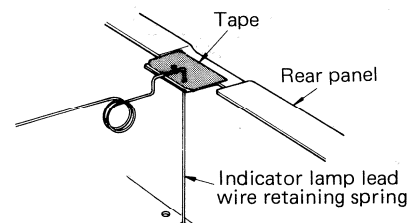

Fig. 3
**Note:** When turning on the power supply with the top board removed, stop the indicator lamp retaining spring with tape as shown in Fig. 3 so that it will not come off the rear panel.